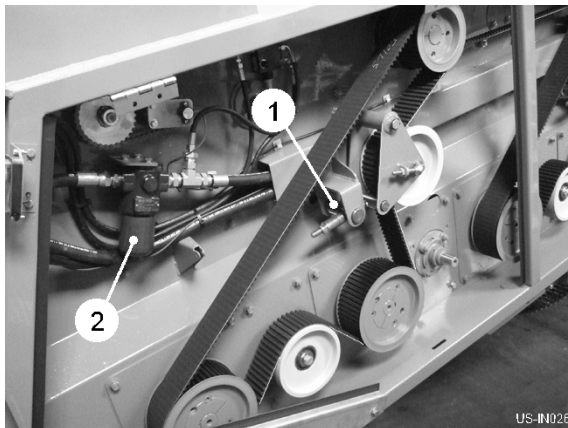

Fig 18
The toothed drive belts have adjusters (item 1, fig 18) that are visible when the appropriate guard is opened. Correct belt tension is achieved when the spring is compressed until it aligns with the edge of the guide plate (approx. 35mm).
A pressure filter (item 2, fig 18) is mounted in the supply line from the tractor. The element should be replaced after the first 50 hours of running time and then annually or every 500 hours thereafter.